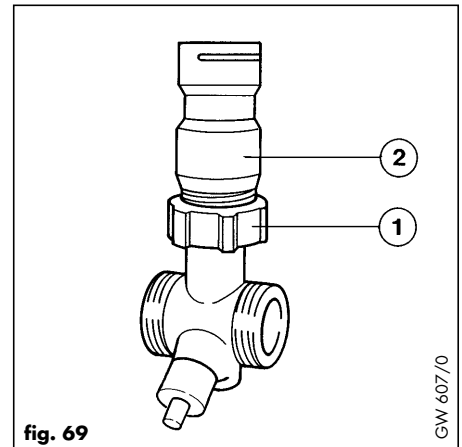

fig. 69
- Undo union (1, fig. 69) to remove bypass.